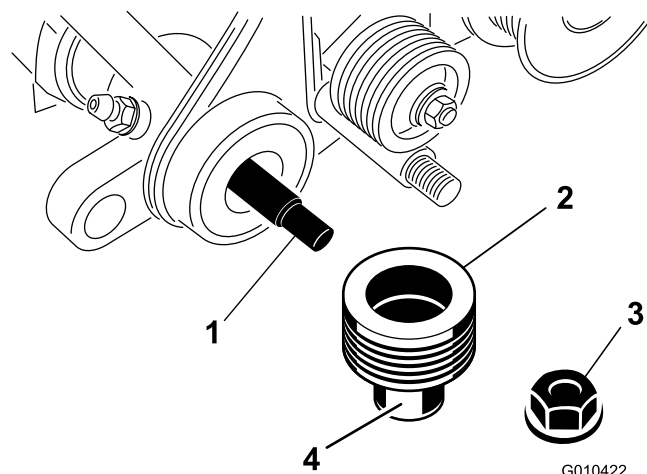

Figure 8
3. Apply grease to the outer surface of the driven pulley, as shown in Figure 8.
4. Slide the pulley onto the groomer shaft (Figure 8).
5. Secure the pulley to the shaft with a locknut (3/8 inch) as shown in Figure 8.